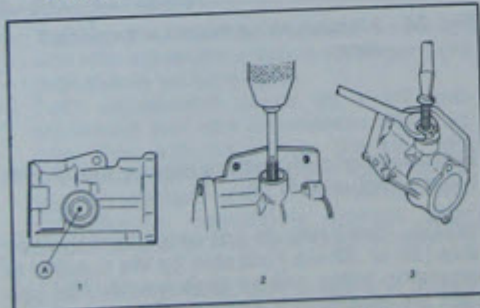

Fig. 29 Removing non-return valve
After removal of the elbow, remove valve for replacement. For this operation proceed as follows (referring to Fig. 29).
- Remove tap and, with a 5/32 screw, nut and washer (assembled as in Fig. 29 - part 3), extract the valve by tightening screw in tapped hole, retain the screw with a screwdriver, turn the nut with a spanner. The valve will then be withdrawn by the screw.